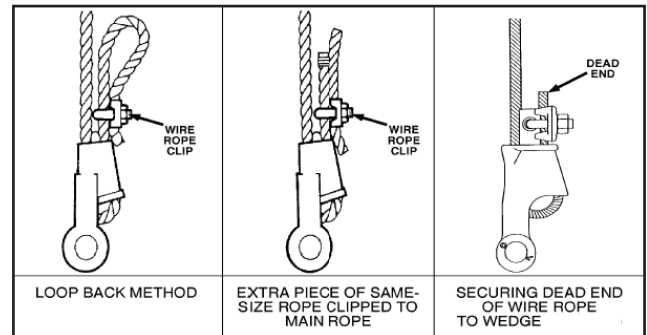

Figure 13.10: Approved methods for attaching a wedge socket
4. Use specifications in Figure 13.10 when fabricating a thimble.